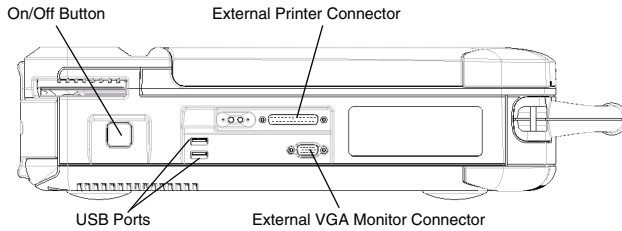

Figure 2. Left side panel of the PRM.
4. (Optional) Connect the external printer to the PRM using the parallel cable provided with the printer (Figure 2). The external printer must be connected and activated to allow external reports to be printed.
5. (Optional) Connect the external monitor to the PRM using a standard VGA cable (Figure 2). The Model 6977 VGA Extension Cable is available from Guidant as an accessory.
4. Press the On/Off button (Figure 2).
If supported by the software application currently running, an optional external printer can be used. To print reports to an external printer, first connect the printer to the Model 3120 PRM using the parallel cable. The cable connects the external printer to the PRM via the external printer connector (Figure 2). The external printer must be connected and activated to allow external reports to be printed. For more information, see “Optional External Printer” on page 3.